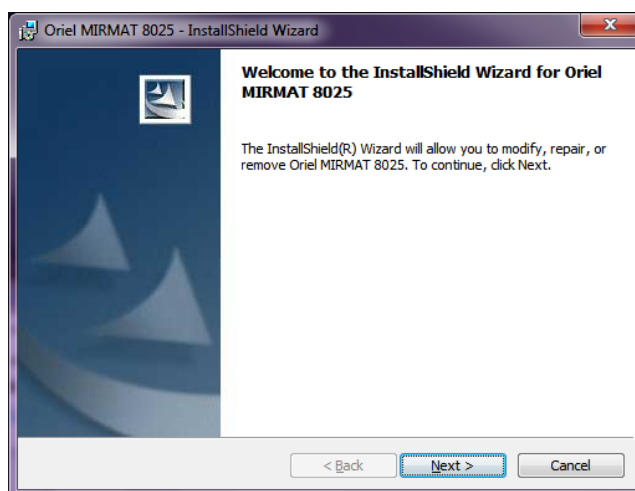

Figure 22: Begin Active X Installation
17. Click “Next” to begin the installation process, as shown in Figure 22.